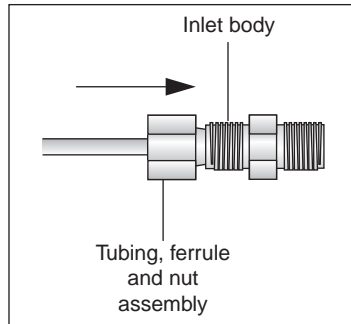

Figure 3-2. Swagelok and Inlet Connection
- Slide the nut over the inlet body, as shown in Figure 3-2, and tighten until finger-tight.